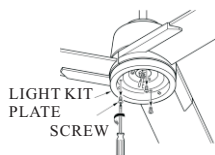

FIG.15
3. Remove 3 screws on light kit plate. (see Fig.15)